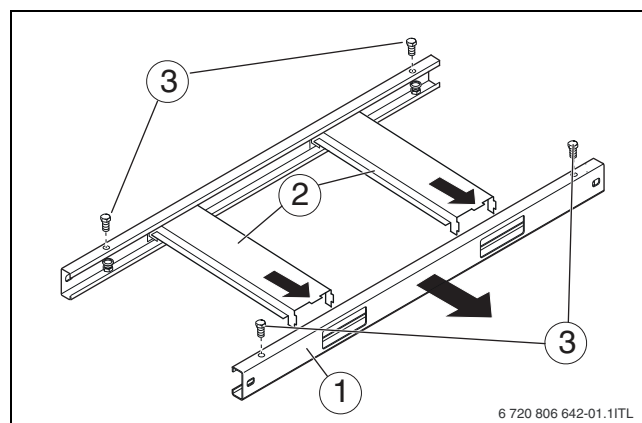

Fig. 11 Removing the base frame
The transport height can be reduced by removing the base frame rails (→ fig. 11, [1]) with the cross beams.
- Disassemble the base frame as shown in fig. 11.